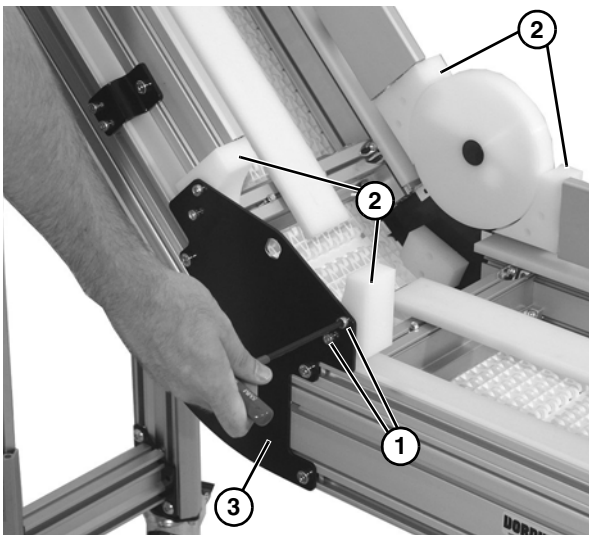

Figure 56
2. Remove two socket cap screws (**Figure 56, item 1**) for all four hold down guards (**Figure 56, item 2**) on side of lower knuckle assembly (**Figure 56, item 3**).